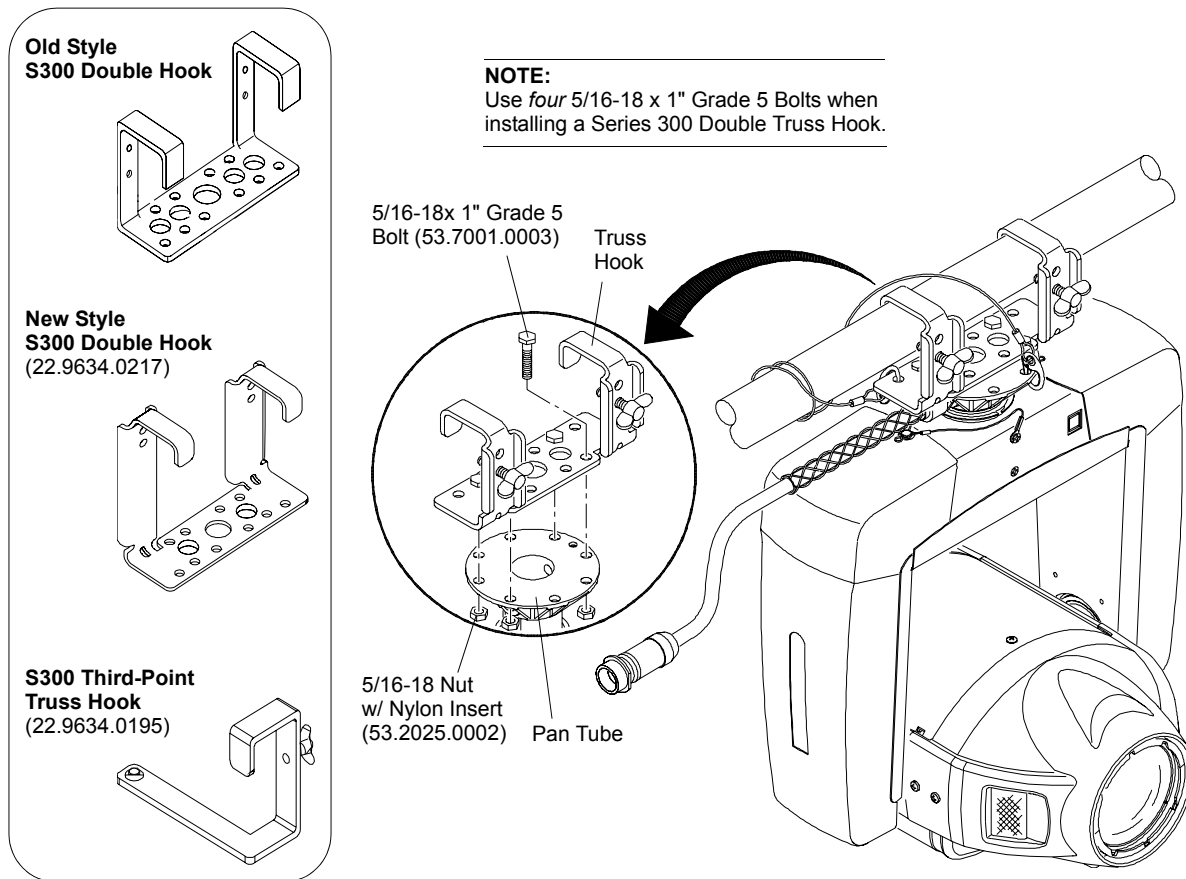

Figure 3-11: Attaching a Series 300 Truss Hook (VL6C+ Example)
- Step 2. At pan tube, attach truss hook using four 5/16-18 x 1" bolts and 5/16-18 nuts (**Figure 3-11**).